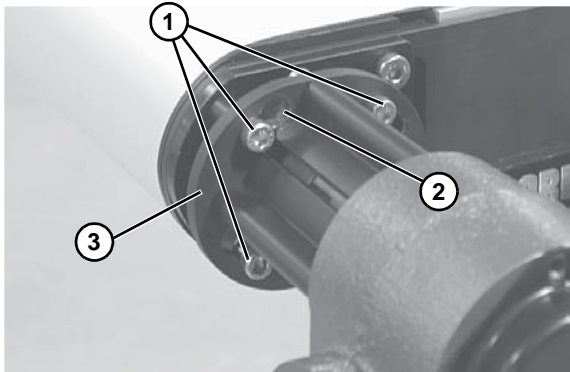

Figure 8
- Slide mounting screws (**Figure 8, item 1**) through slots (**Figure 8, item 2**) in gearmotor bracket (**Figure 8, item 3**). Rotate gearmotor assembly into desired position.